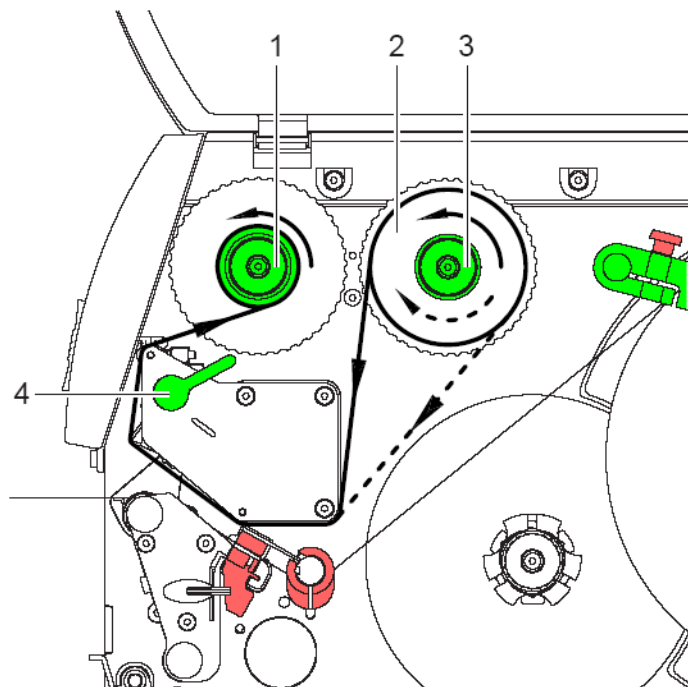

Fig. 3-5 - Inserting the ink ribbon
1. Swivel the lever (4) counter-clockwise as far as it will go, thus lifting the print head.
2. Push the ink ribbon roller (2) onto the unwinder (3) as far as it will go.
3. Hold the ink ribbon roller and turn the green knob counter-clockwise until you notice a resistance. In this way, the ink ribbon roller (2) is clamped to the unwinder (3).
4. Push a film core of a suitable width onto the winder (1) and clamp the film core in the same way.
5. Insert the ink ribbon as shown in Fig. 3-5 and adhere the start of the ribbon to the film core with a piece of adhesive tape. In Fig. 3-5, the continuous line applies to rollers with coated side on the inside, and the dotted line for rollers with coated side on the outside.